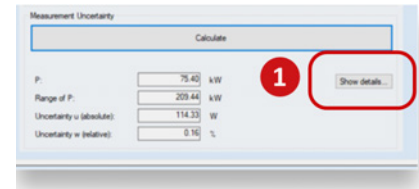

Figure 5: Show details button to show MU Efficiency
By clicking the dotted button ❶ “Show details...” (see Figure 5) at the bottom of the Perception MU sheet (see Figure 1), or choosing the “eta” symbol in the Perception toolbar, or by right-clicking the “MU Estimation (Basic)” tab and selecting “Show Efficiency Calculation Results”, the lower part of the MU Estimation (Basic) sheet becomes visible where the MU of efficiencies are shown. This will be further explained below in the chapter “MU of efficiencies” on page 6.